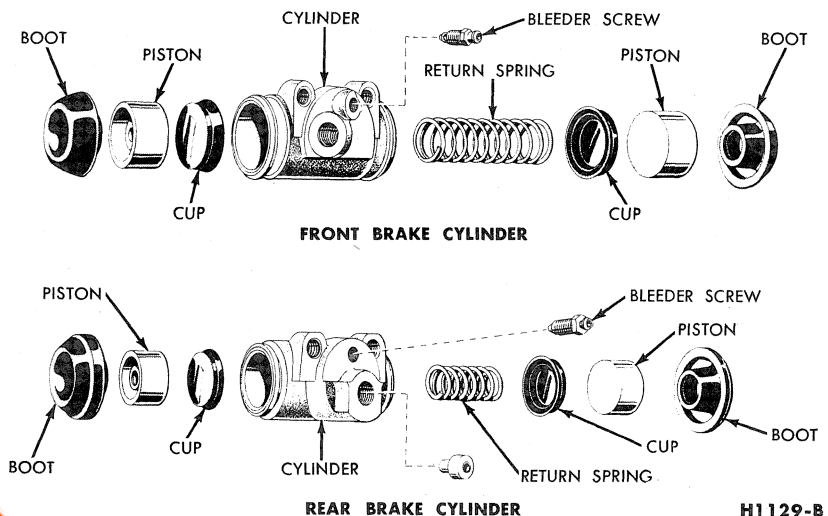

FIG. 7—Front and Rear Wheel Cylinders
1. Remove the rubber boots (Fig. 7). Remove the pistons, cups, and return spring from the cylinder bore.
3. Insert the return spring, cups, and pistons (Fig. 7) in their respective positions in the cylinder bore. Place a boot over each end of the cylinder.